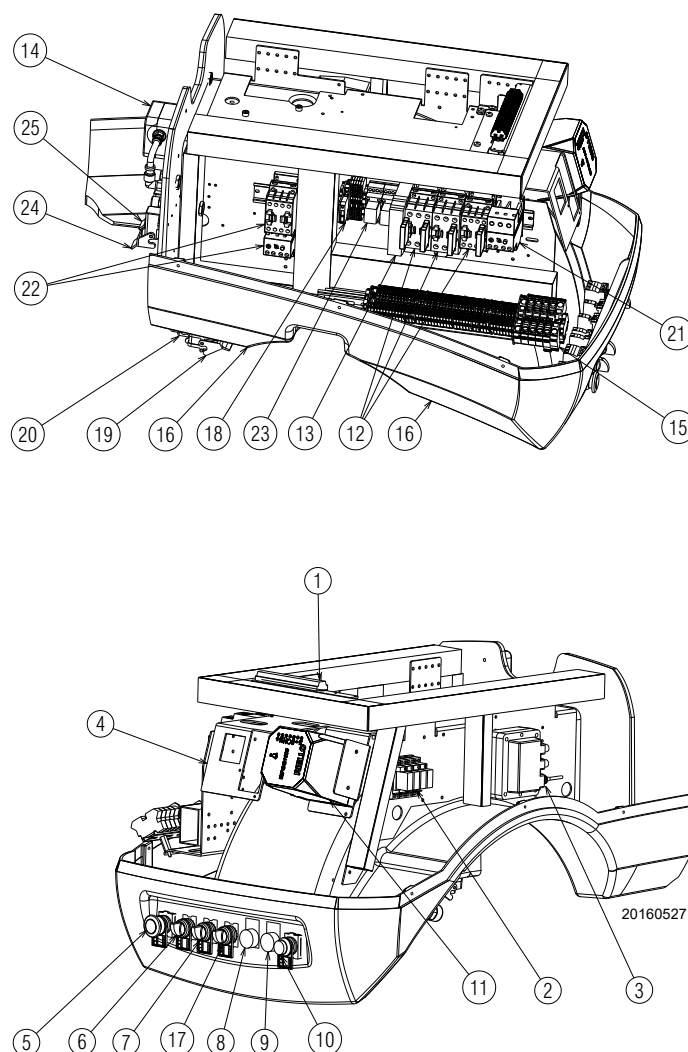

Fig. 5
- **Control box lockout:** if the button (**red LED**) of control box 11)(Fig. 5) and signal button 10)(Fig. 5) light up, the burner is locked out. Release by pressing button 10)(Fig. 5).